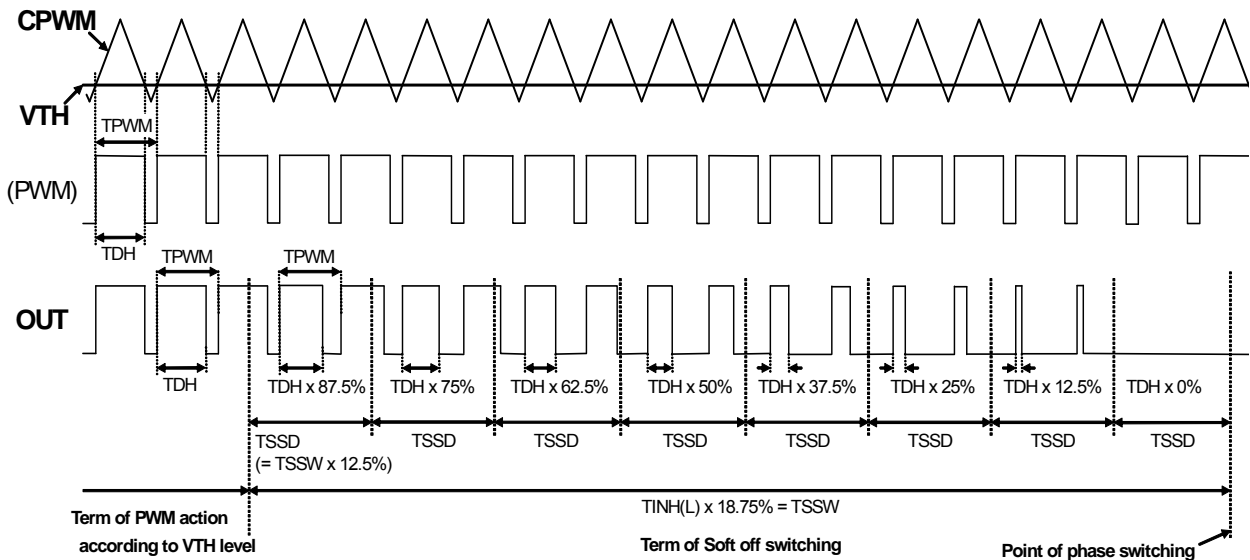

Fig.5
12.5% of Soft switching term, as shown in Fig.5.